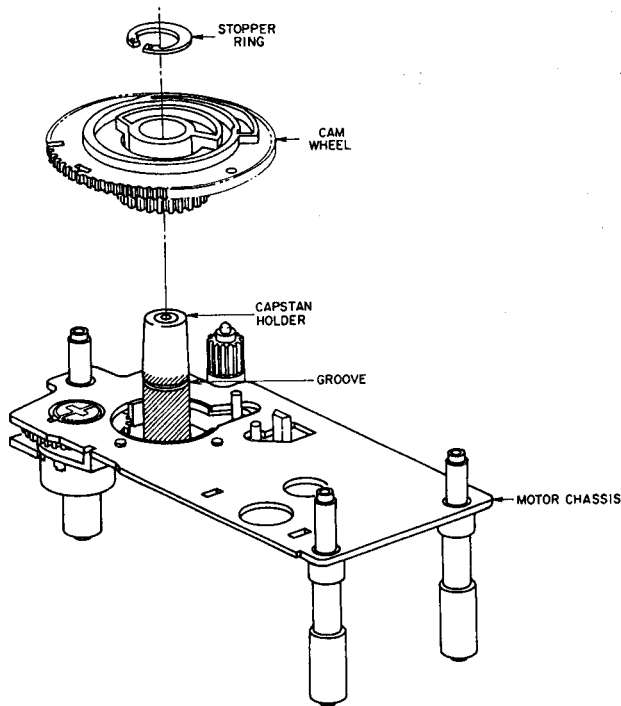

Fig. 4-11
- 2) Remove the stopper ring from the capstan holder. Pull off the cam wheel. (See Fig. 4-11.)